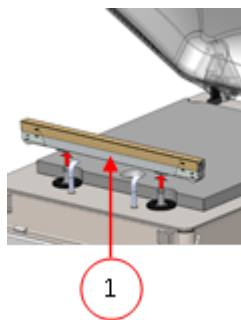
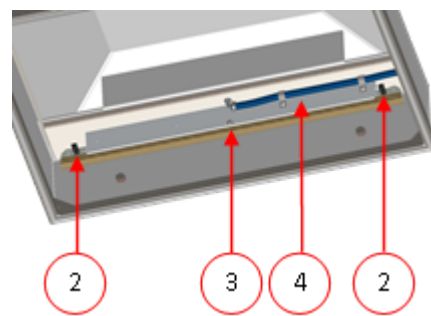

Figure 24: Removing the Sealing Bar (Plastic Lid)
Figure 25: Removing the Sealing Bar (Metal Lid)
On machines with a plastic lid, the sealing bars are mounted on cylinders (Figure 24: Removing the Sealing Bar (Plastic Lid) on page 69). On machines with a metal lid, the sealing bars are mounted in the lid (Figure 25: Removing the Sealing Bar (Metal Lid) on page 69).
1. Remove the sealing bar by lifting it from the cylinders. See Figure 24: Removing the Sealing Bar (Plastic Lid) on page 69.
Plastic lid	Lift the sealing bar from the cylinders. See Figure 24: Removing the Sealing Bar (Plastic Lid) on page 69.
Metal lid	See Figure 25: Removing the Sealing Bar (Metal Lid) on page 69. Remove the sealing bar from the holders (4) by disconnecting the two electrical connector plugs (2) and removing the M6 screw (3).